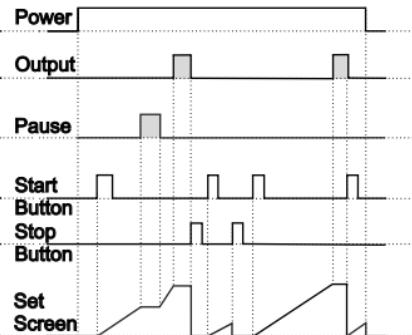

Figure 2.4
1.4.2 If Upcount ***dEct***=0 and ***outF*** is ***oFF*** the control diagram is shown in Figure 2.4